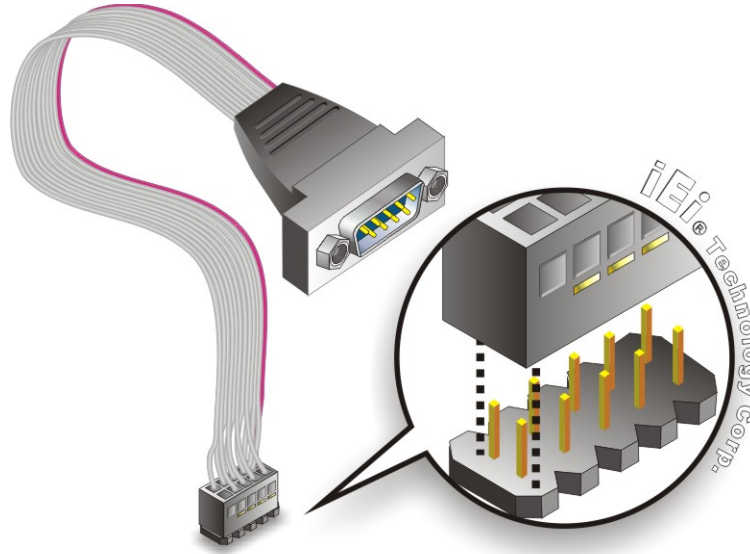

Figure 4-14: Single RS-232 Cable Installation
- Step 3:** **Insert the cable connectors** Once the cable connector is properly aligned with the serial port connector on the NANO-945GSE2, connect the cable connector to the on-board connector. See **Figure 4-14**.